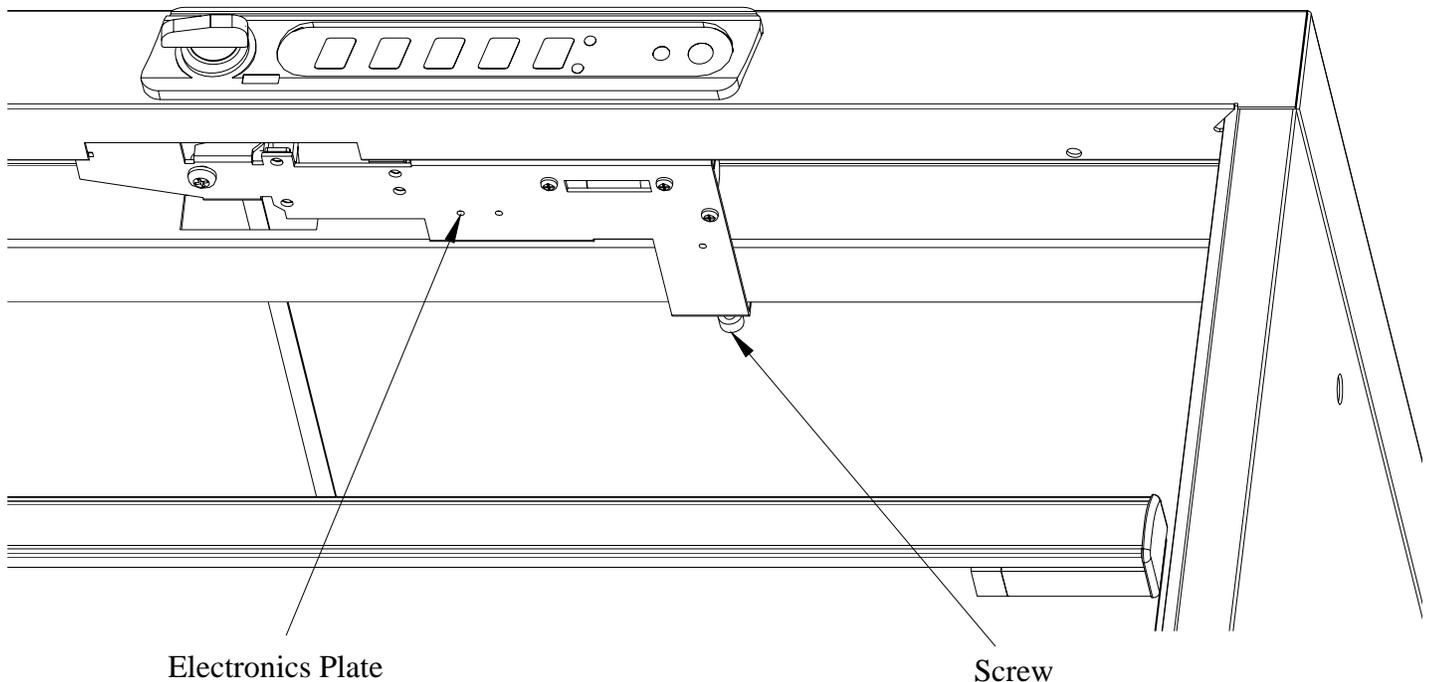

Figure 4
2. Remove the top drawer(s), enough for easy access, as shown in Figure 4. For multiple drawers, the cabinet will have to be locked and unlocked in between drawers due to Lista's PrevenTip® one-drawer-at-a-time feature.
3. Locate the electronics plate in the top of the cabinet as shown below in Figure 4. There is a screw on the rear-most section of this plate that holds a small galvanized mounting bracket over the ledge in the cabinet, Figure 4. Loosen this screw so that the electronics plate is free to move. A 5/32" Allen key might be needed to get the screw spinning freely.